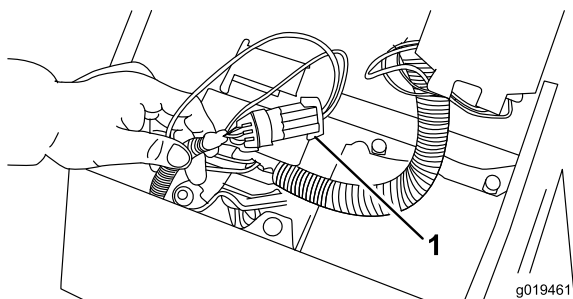

Figure 41
2. Open control panel cover. Locate wire harness and loopback connector. Carefully unplug loopback connector from harness connector (Figure 41).